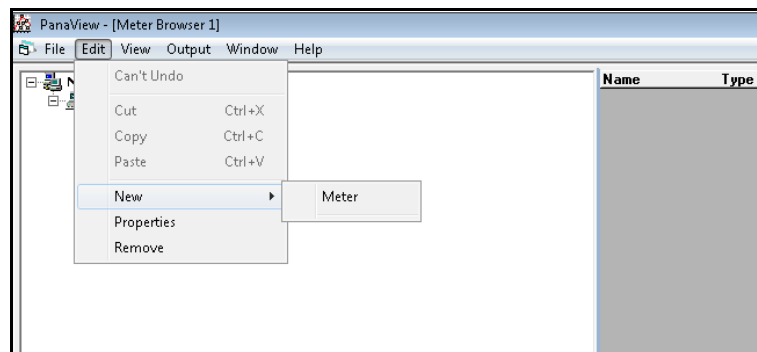

Figure 35: Add New Meter (using the Edit Menu)
2. Click and highlight the communication port to which the meter will be added and then open the “Edit” menu on the menu bar (see *Figure 35* below).